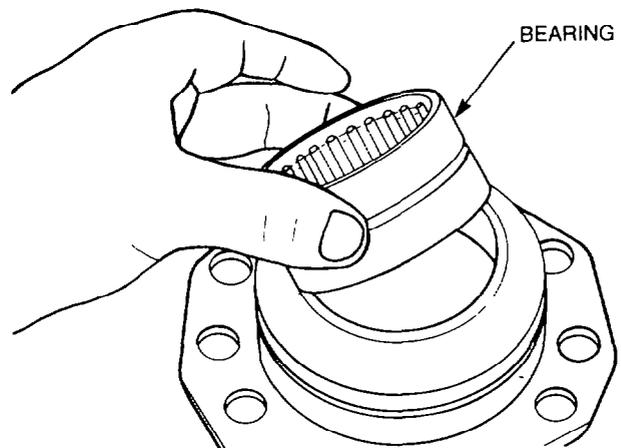

Figure 306 — Cover Bearing — Installation
- a. Using a suitable press and mandrel, install the needle roller bearing into the cover until the bearing is flush with the face of the bearing cover bore (see Fig. 306).